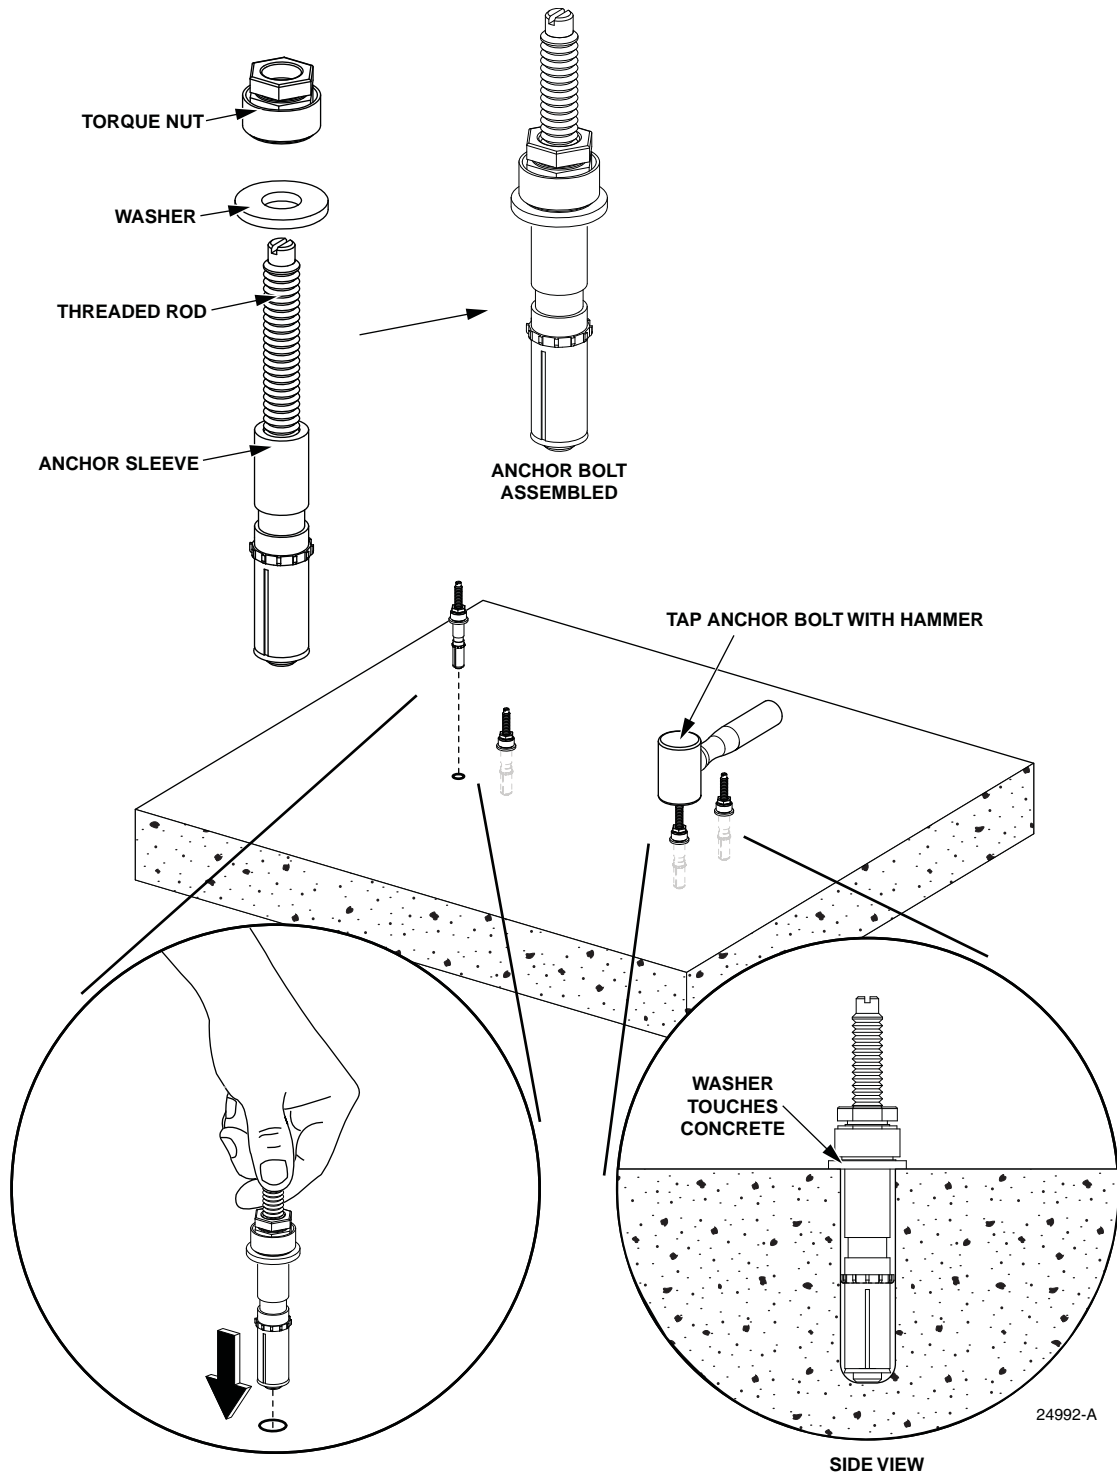

Figure 6. Installing Washer and Torque Nut on Threaded Rod
4. Thread the washer and torque nuts onto the threaded rod, as shown in Figure 6. Insert the anchor bolt assembly into the hole. The washer should touch the top of the anchor sleeve. Tap the anchor bolt assembly with a hammer until the washer touches the concrete.